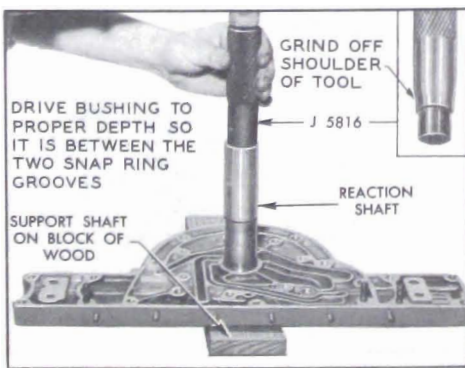

Figure 5-83—Installing Input Shaft Bushing
1. If old input shaft bushing was removed, first make sure that inner retaining ring is firmly seated in groove in reaction shaft, then install a new bushing using installer J-5816. Support shaft on wooden block to avoid damage and drive bushing into place with light hammer until shoulder of tool contacts reaction shaft. See Figure 5-83. Install outer retaining ring.